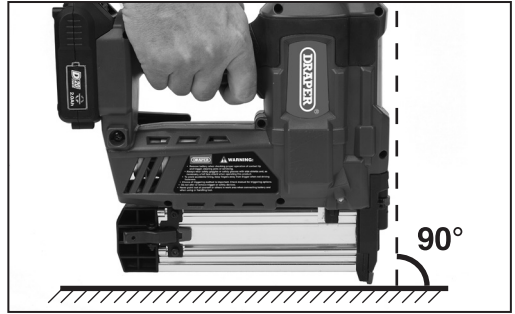

FIG. 3
6.2 OPERATE PERPENDICULAR TO WORKPIECE – FIG. 3